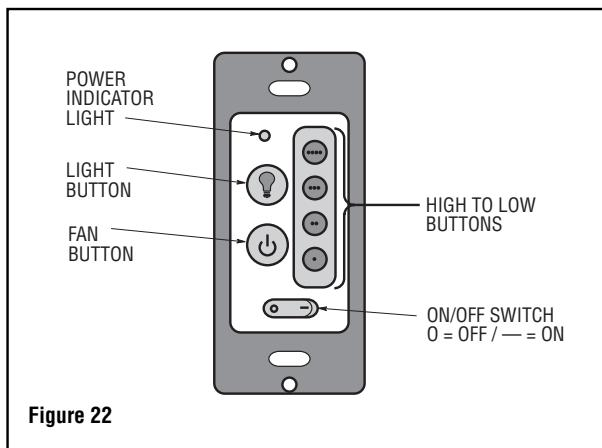

Figure 22
16. To turn the light on and off, press and release the LIGHT (  ) button. To set the light intensity, press and hold the LIGHT (  ) button. The light will turn on at the light intensity previously selected (Figure 22).